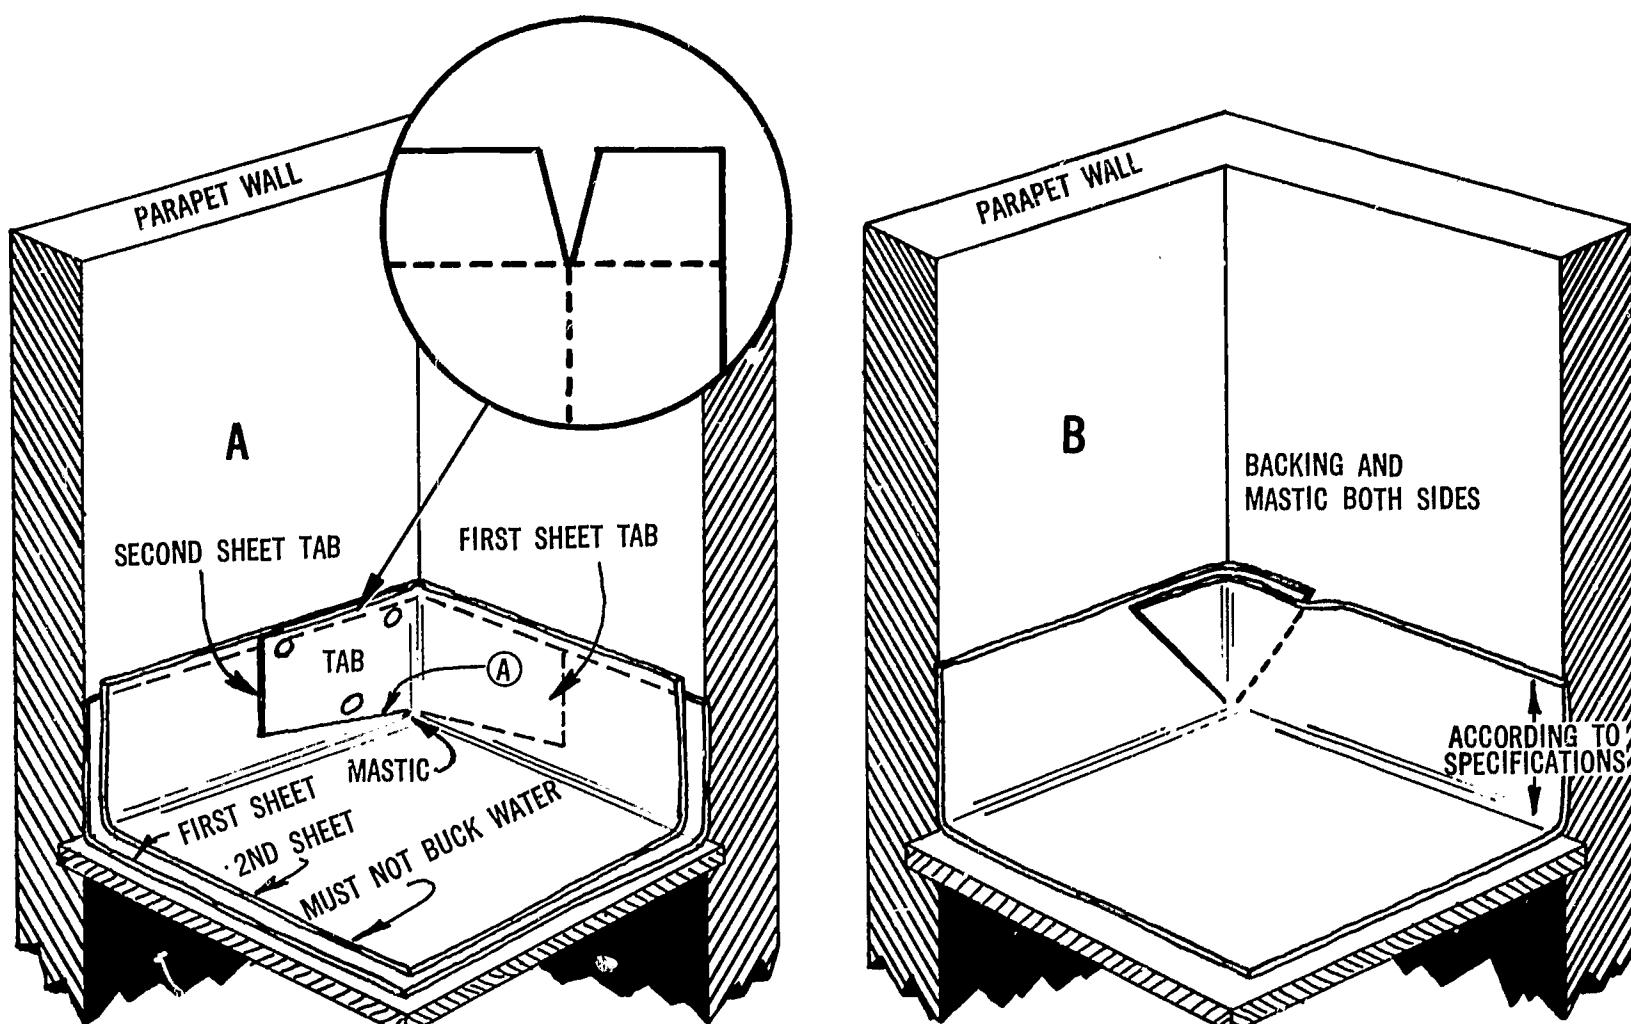

Fig. A-7. Cutting and folding an inside corner without a cant strip
Two possible ways that felt can be cut to form an inside corner are shown in Fig. A-7. The recommended procedure follows:
- Lay the first sheet of felt (indicated by the dotted lines in Fig. A-7, Method "A") on the deck and turn its end up the wall 6 inches.
- Make a cut on one crease (designated by (A) in Fig. A-7), forming a tab.
Another method of making this cut on an inside corner (without cant strips) is illustrated in Fig. A-7, Method "B".